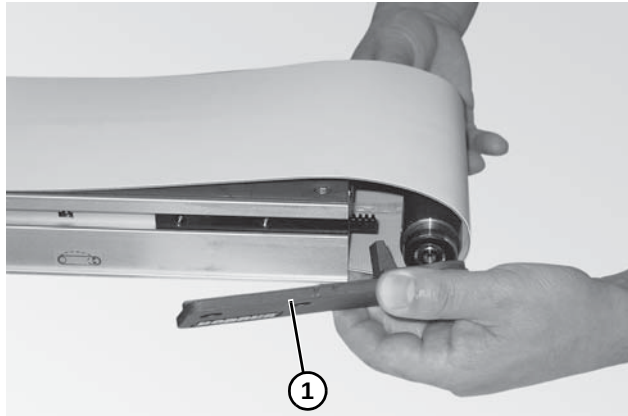

Figure 56
2. Place the head plate (Figure 56, item 1) and attach the head plate to the conveyor frame with the two (2) plates removed. tighten screws 60 in-lb (7 Nm).